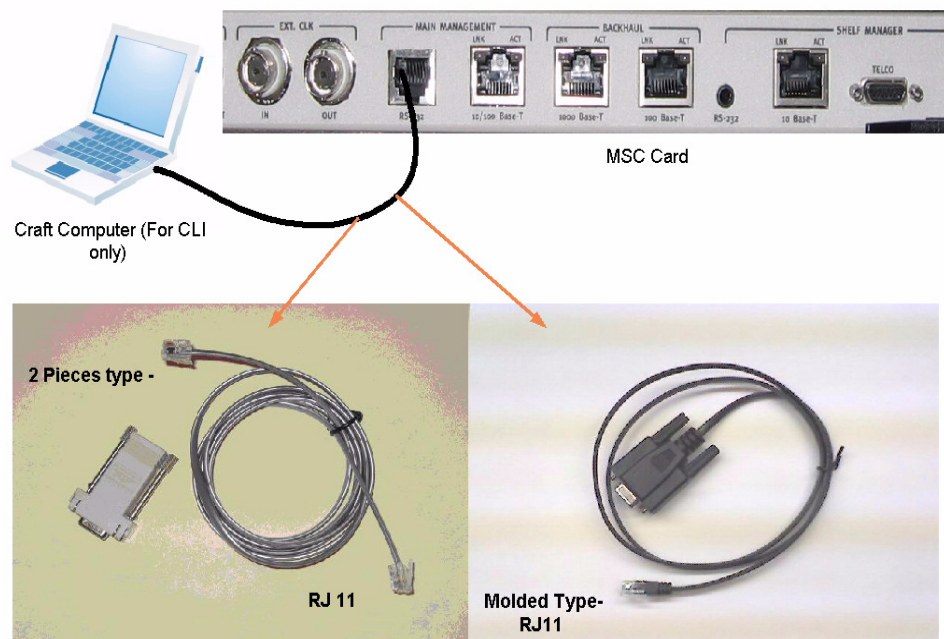

Figure 2-14 Connecting to the RS-232 Craft Port
2. Using the serial cable included with the PM 5000 system (See Figure 2-14), connect the cable to the DB9 serial port on your computer and to the RS 232 RJ11 Jack on the PM 5000 system.